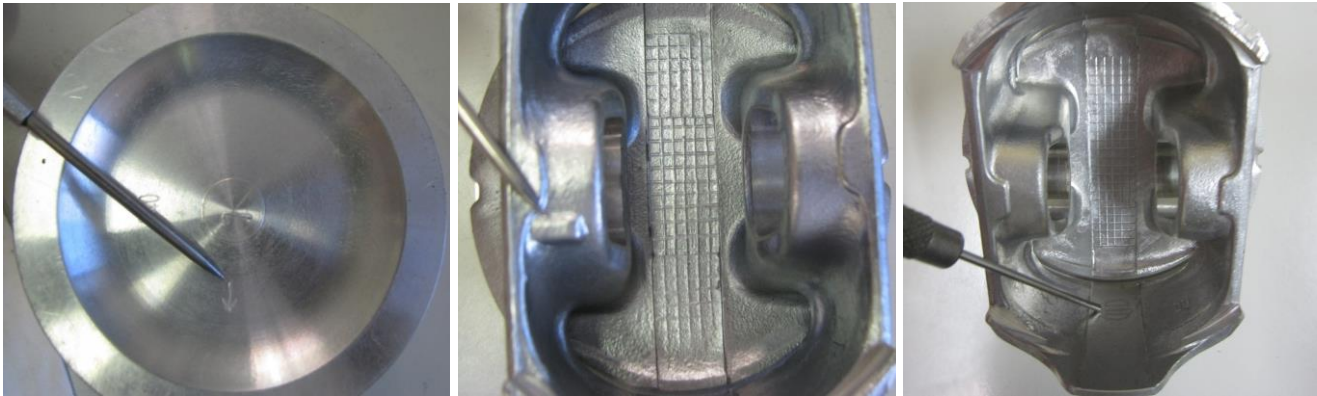

Figure 133 – Thrust Direction Markings For Pistons
- Looking at the underside of the piston there is a cast-in lump on one gudgeon pin housing (see Figure 133). This lump must be fitted to the engine on the side of the connecting rod closest to the propeller flange. Another marking used for the same job is a small arrow or indent cast into the crown. The arrow must point towards the propeller flange and/or the indent must be on the propeller flange side of the connecting rod. These markings show the correct orientation of the piston to the thrust loads from combustion relative to the propeller. In addition, or when the thrust mark is absent for some pistons, the manufacturer's mark  is orientated towards the bottom (sump side) of the engine for the RHS of the engine and towards the top of the engine for the LHS of the engine (from the pilot's perspective), see Figure 133 right image.